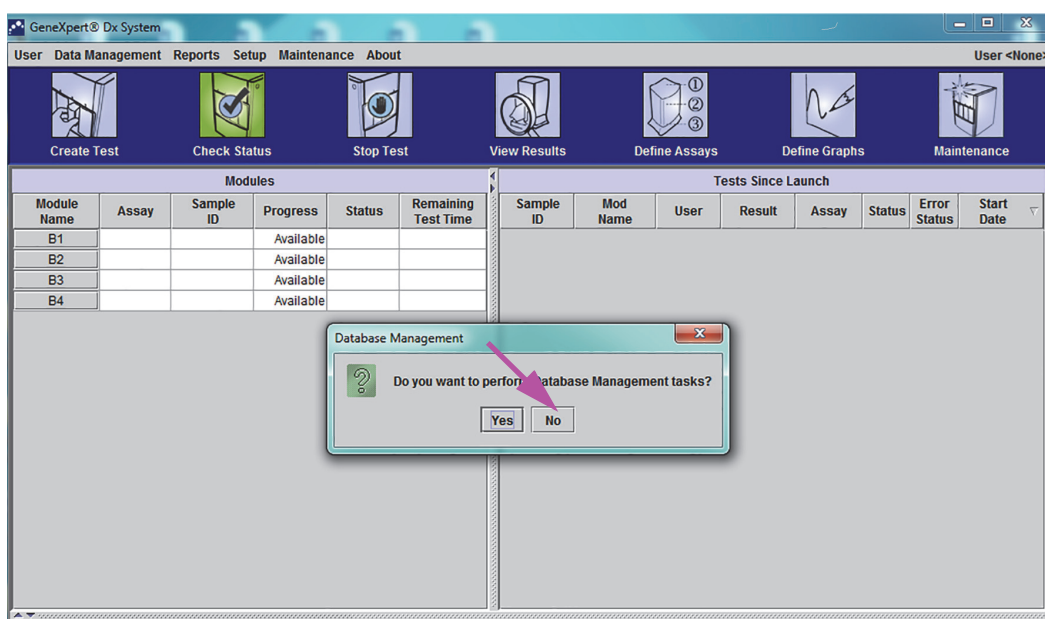

Figure 2-24. GeneXpert Dx System Window with Database Management Dialog Box Overlay
1. In the Assign Instrument Dialog box, click **OK** to acknowledge the assignment of the instrument letter(s), which closes the dialog box. The Database Management dialog box appears (see Figure 2-24).